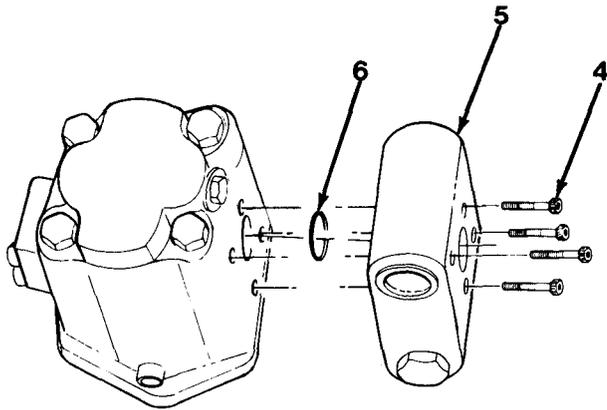

Figure 16-4
5. Remove four allen screws (4), winch brake valve assembly (5) and O-ring (6, Figure 16-4).